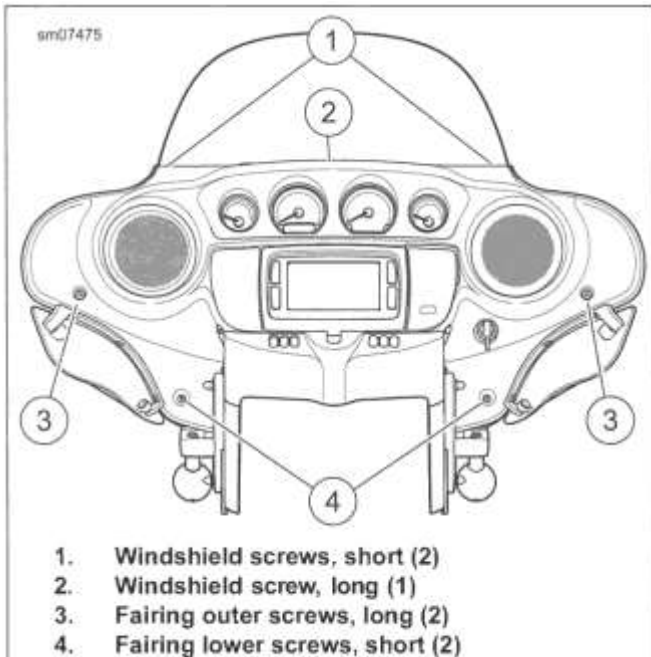

Figure 3-96. Outer Fairing Screws
- See Figure 3-96. Remove two screws (3).
- Remove two screws (4).
- See Figure 3-96. Screws (4) are similar to the center screw that secures the windshield. Use care to avoid mixing them during installation. Screws (4) have a smooth shank, captive washer and unthreaded tip.
- See Figure 3-96. Start two long screws (3).
- Start two short screws (4).